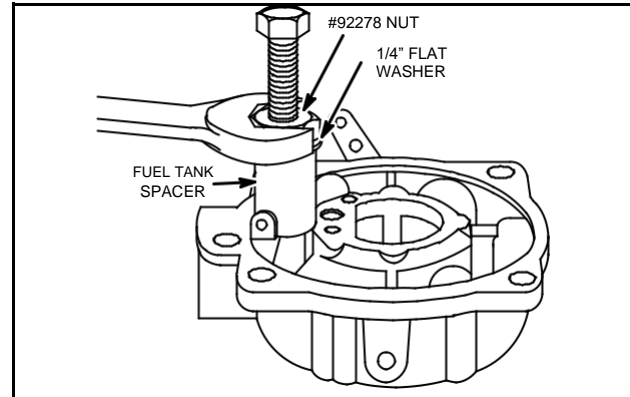

Fig. 24 – Remove Seat
4. Tighten nut until seat is removed, Fig. 24.